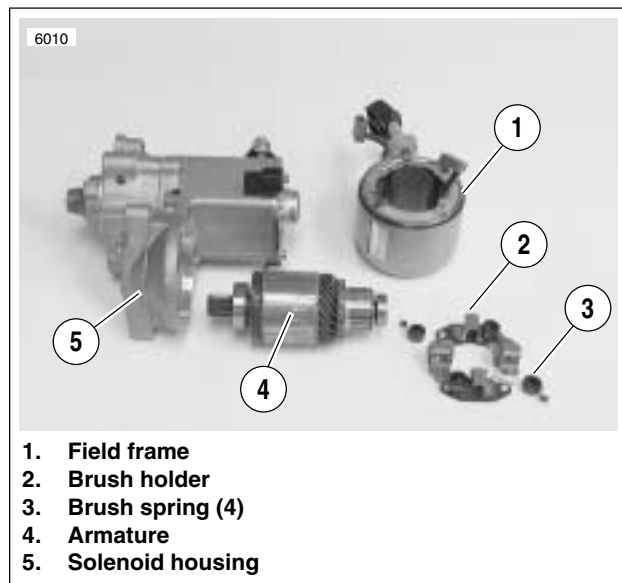

Figure 5-18. Starter Components
4. See Figure 5-18. Use a wire hook to pull upward on brush springs (3), and lift brushes out of holder (2). Remove brush holder.